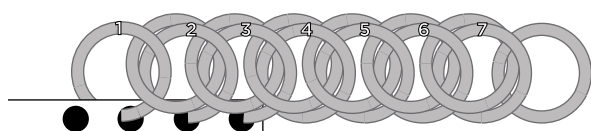

FIG. 1
2. Make a base chain of Half-Persian 3-in-1 (through Step 12) to the desired length. Do not remove from the tool (**FIG. 1**).